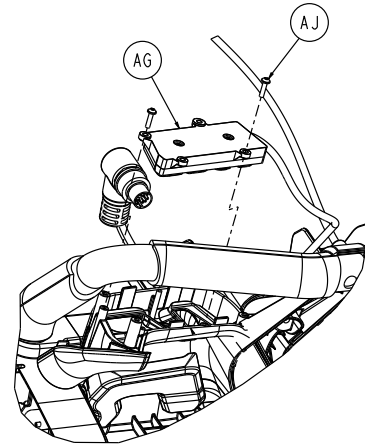

Figure 72 – Remove the UI cable assembly and screws
6. Using a T10 Torx driver, remove the two round washer head tapping screws (AJ) that secure the UI cable assembly (AG) to the button housing (Figure 72). Save the screws and cable assembly.